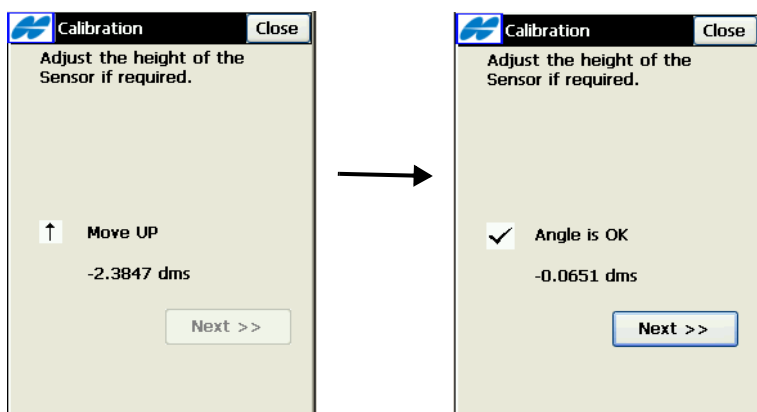

Figure A-15. Check Angle of Sensor
6. Adjust the height of the sensor so the angle is less than  $1^\circ$ . Once the Angle is OK, tap **Next** (Figure A-15 on page A-10).